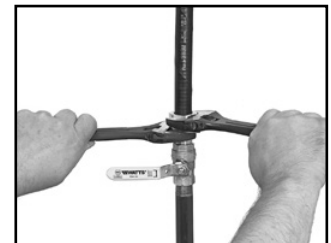

Fig. 4-14
STEP 5 WRENCH FITTING (FIG. 4-14)